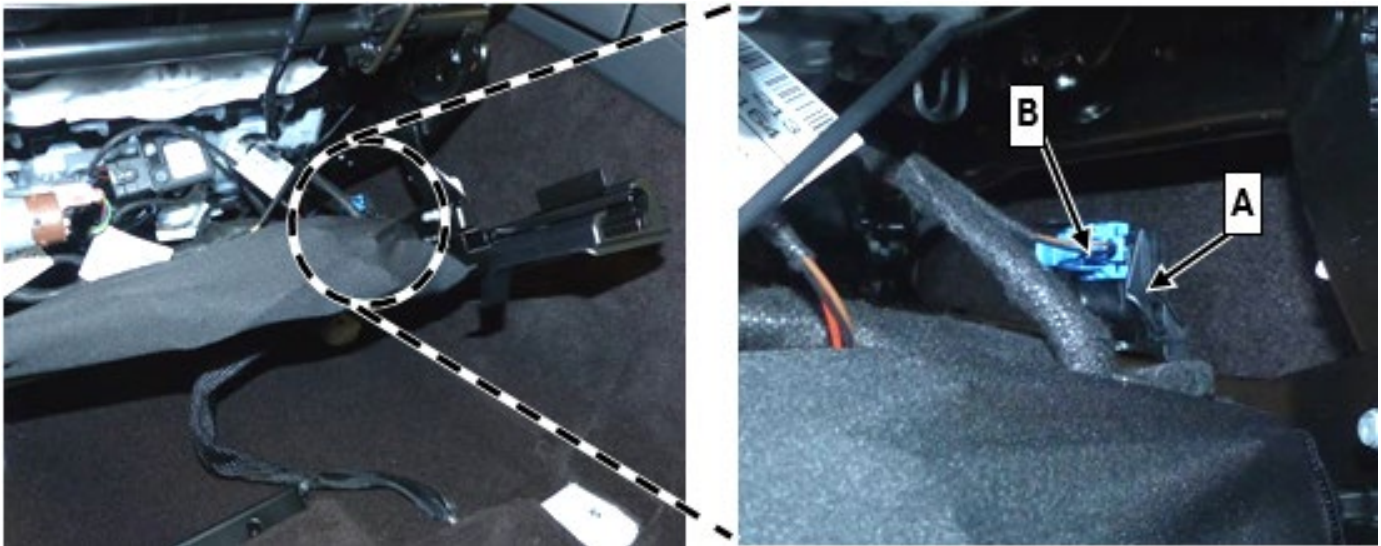

Figure 1 (shown on right front seat)
5. Disconnect electrical connector (**B, Figure 1**) at Hall sensor (**A, Figure 1**).